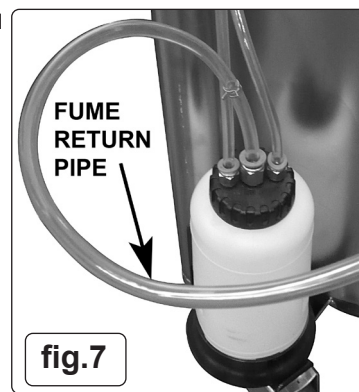

fig.7
- 4.14. Fume venting system.** The fume venting system is designed to protect the operator from fumes during operation of the unit. The fumes are collected at the top of the unit (see fig.3-12) and are fed through two plastic pipes to a small container mounted at the bottom of the unit (see fig.3-8 and fig.7). Small amounts of fuel will condense in this container before the fumes are fed through the fume return pipe back to the source tank/vehicle. Periodically check the fume container for accumulated fuel and empty it if the container is more than 1/3 full.